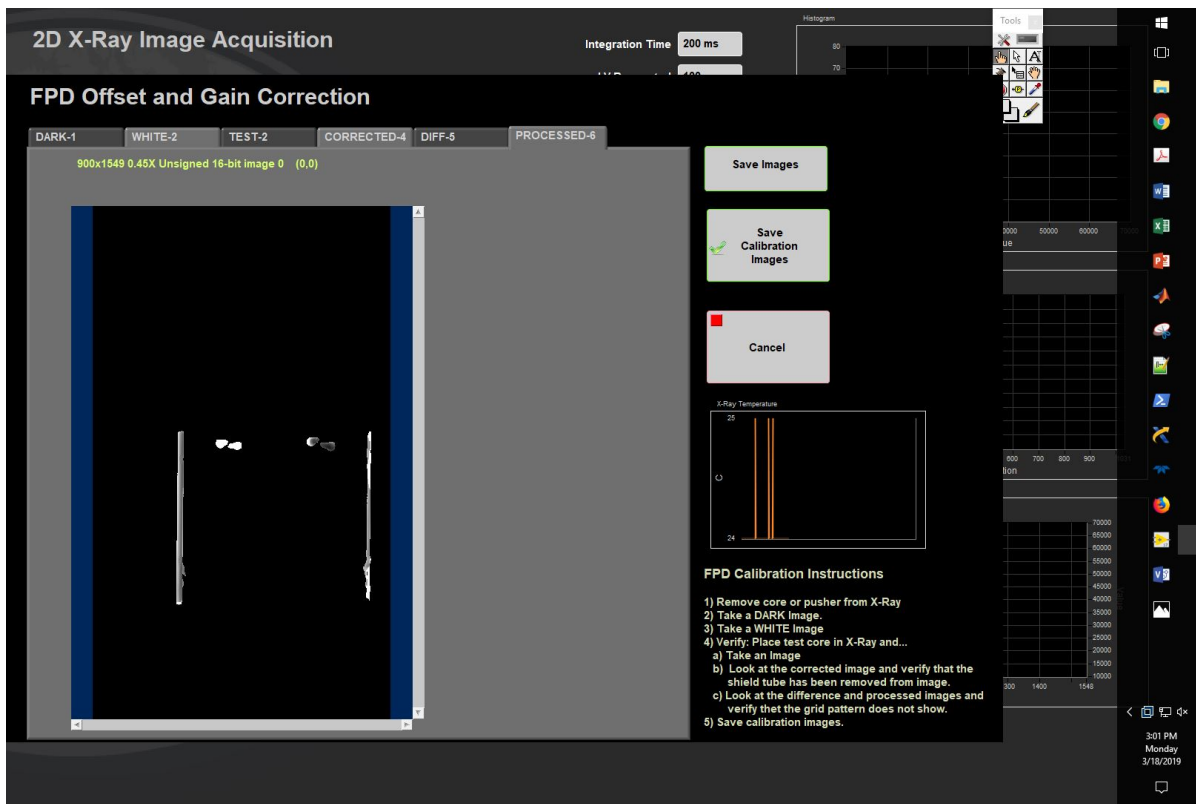

Figure 29- Processed Image Tab
6. Select the PROCESSED-6 tab to review the automatically processed image (**Figure 29**).